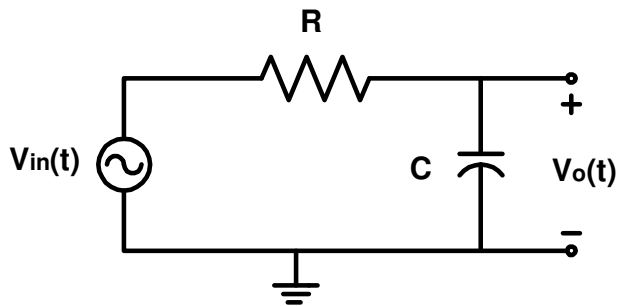

Fig. 2. First order lowpass filter (integrator)
1. For the circuit shown in Fig. 2, derive the transfer function for v_o/v_{in} in terms of R , C and $j\omega$, and find the expressions for the magnitude and phase responses. Express your results in the form
- Build the circuit shown in Fig. 2 with the values of R and C you choose in the prelab. Apply a 6Vpp sinusoidal signal from the function generator to the input, using the high Z option on your signal source (ask you TA for assistance).